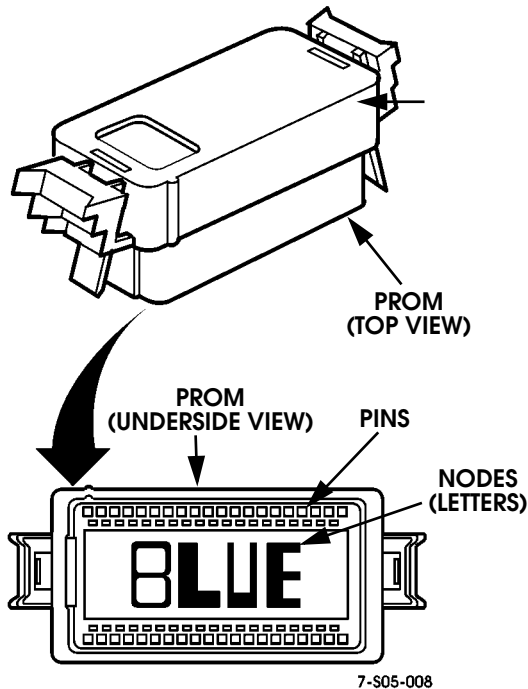
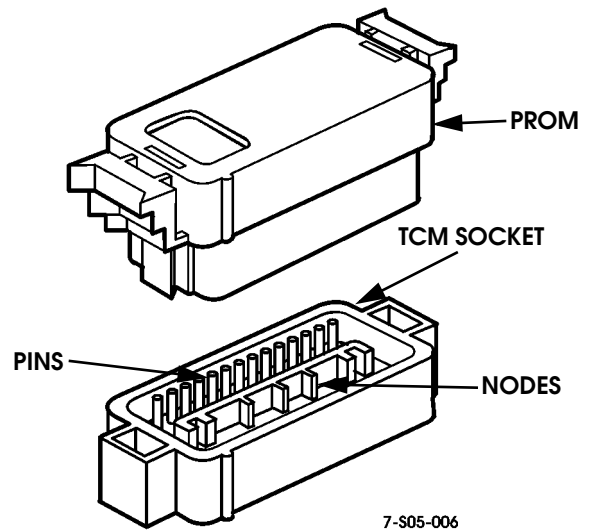

Figure 5-63: PROM Alignment Node and Pin Location
Figure 5-64: TCM Notch Locations
- Inspect PROM alignment nodes and pins for damage or contaminants (Figure 5-63). Inspect TCM socket notches and pin connectors for damage and contaminants (Figure 5-64). Remove any contaminants with electrical contact cleaner. Replace PROM if pins or nodes are bent, burred, or dented.
- Align nodes of PROM with mating notches on TCM socket (Figure 5-64).